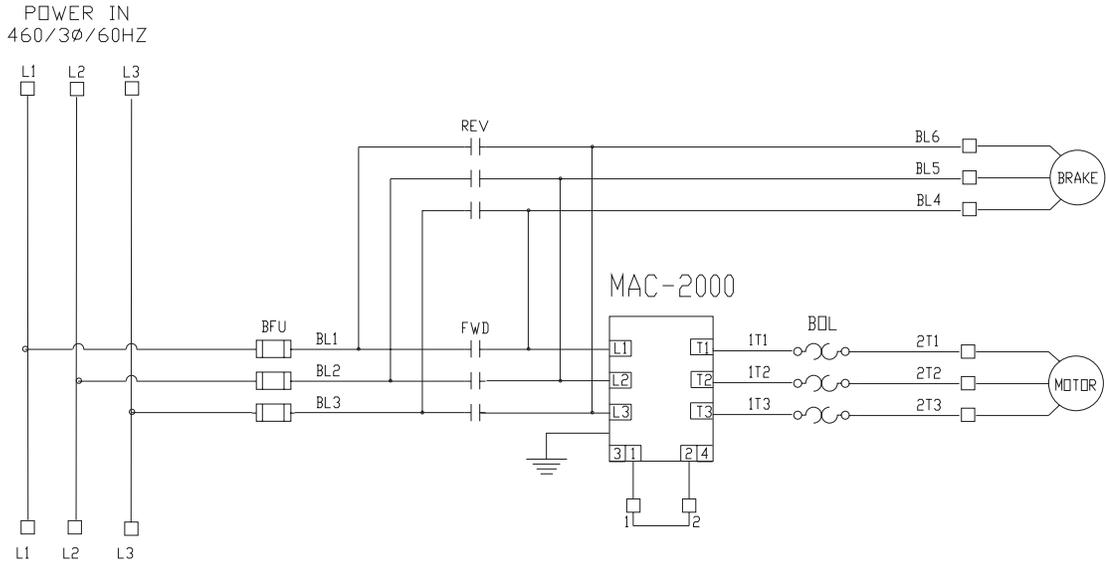
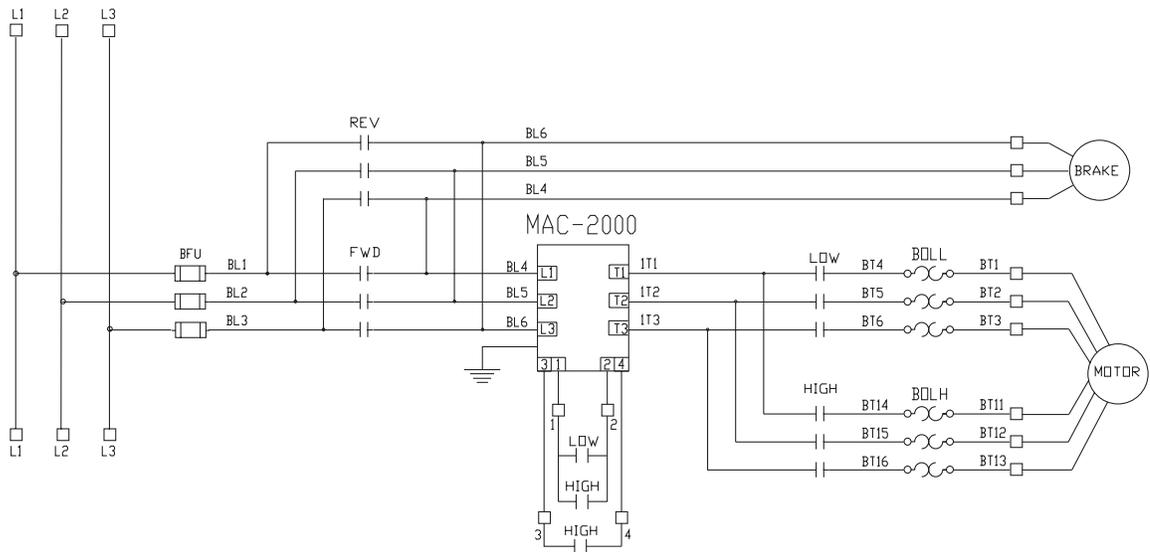

Figure 1: Wiring Diagram—Single Speed Application With MAC•2000
Figure 2: Wiring Diagram—Two Speed Application With MAC•2000
- For single speed motor applications connect a jumper wire to terminals 1 & 2 (see Figure 1: Single speed wiring diagram).
- See Figure 1 for single speed connections or Figure 2 for two speed connections.
- For two speed motor applications, connect a voltage free, N.O. contact to terminals 1&2 and 3&4 (see Figure 2: Two speed wiring diagram).
1 and 2	Single Speed Enable (see figure 1)
3 and 4	Second Speed Enable (see figure 2)
Figure 1 below illustrates the interconnection for the MAC•2000 in a single-speed application. The MAC•2000 is connected between the motor thermal overload and the FWD/REV reversing contactor. Figure 2 below illustrates the interconnection for the MAC•2000 in a two speed application. The MAC•2000 is connected between the motor HIGH/LOW speed contactor and the FWD/REV reversing contactor. If the motor is equipped with an AC brake, it must be connected to the *line* side of the MAC•2000.